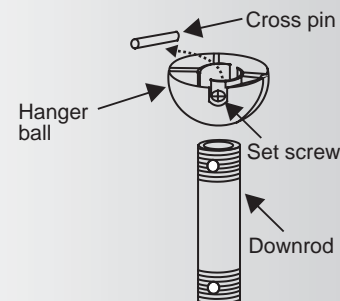

Fig. 7
Step 4. Remove hanger ball from downrod assembly by loosening set screws, removing the cross pin, and sliding ball off rod. (Fig. 7)